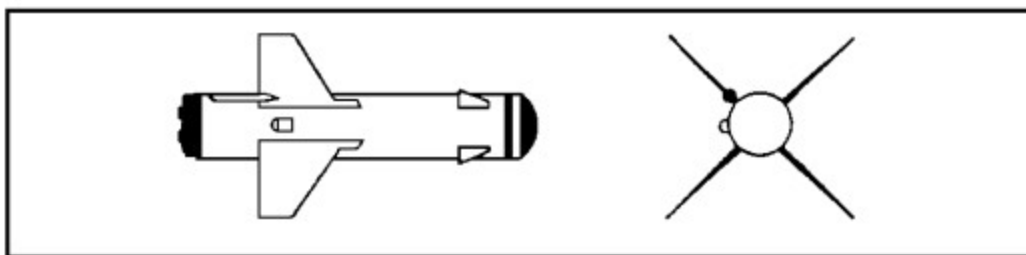

Figure 2-6. AT Guided Missile AT-2/SWATTER.
a. Antitank Guided Missile AT-2/SWATTER. The following paragraphs discuss the AT-2 SWATTER Guided Missile (shown in Figure 2-6).